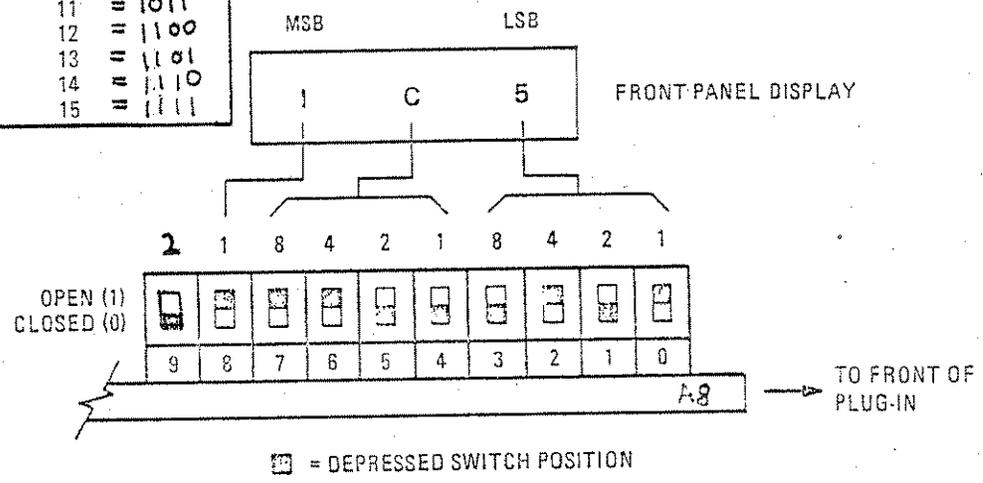

Figure 5-21 YTM to YO Tracking Calibration Switch
7. Enter the number displayed on the 83592A POWER display into A7S1 as shown in Figure 5-21. Refer to Figure 5-20 for the switch location.
9. Enter the number displayed on the 83592A POWER display into A7S2 as shown in Figure 5-21. Refer to Figure 5-20 for the switch location.